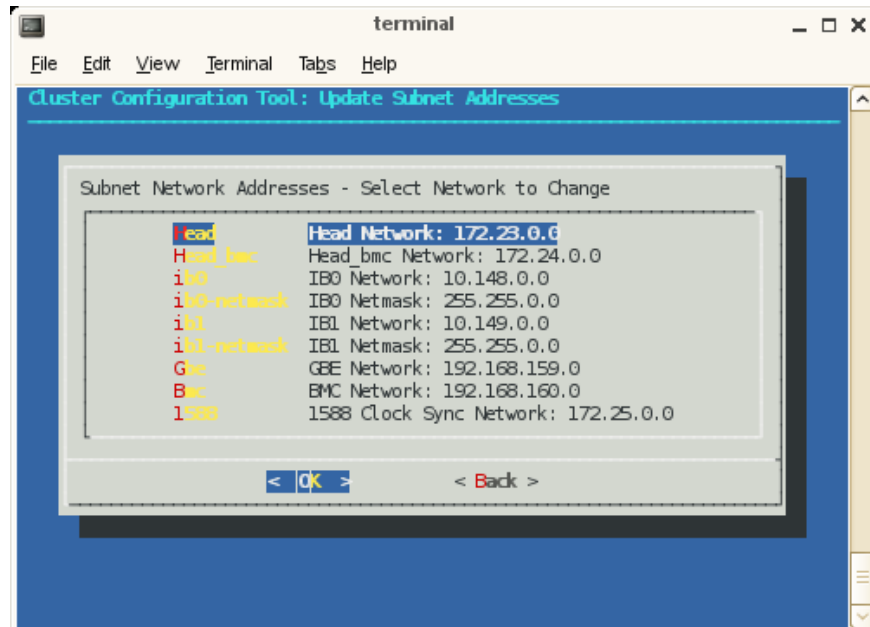

Figure 2-26 Update Subnet Addresses Screen
11. The **Update Subnet Addresses** screen appears, as shown in Figure 2-26 on page 67.